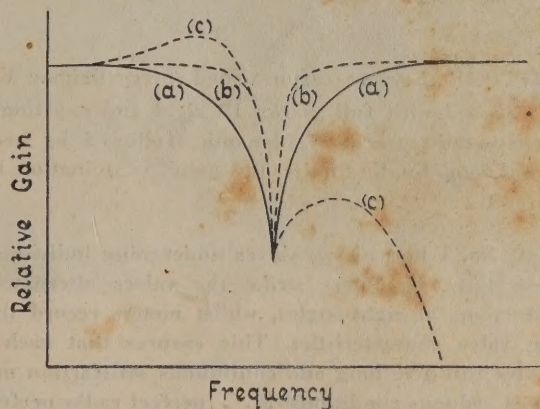

Fig. 2
Fig. 2 shows the response of the network itself at curve (a). One disadvantage of this curve is that after the null, the response rises once more to the same level as below the null, while a second is that the attenuation starts to become effective at frequencies much lower
than the null frequency. However, by combining the parallel-T network with a valve amplifier, both these difficulties can be overcome. First, the network is made to act as a feedback coupling network between the plate and grid of an amplifier valve. The feedback is negative, with the result that the valve adds to the selectivity of the network, and produces a much sharper null, as at (B) in Fig. 2. This overcomes the second difficulty. The first is then partly fixed by connecting a small condenser between grid and earth on the amplifier. This causes a phase shift in the feedback voltage, and gives a slight amount of positive feedback at frequencies below the null point, and extra negative feedback at frequencies above this frequency. As a result, the response curve is no longer symmetrical, but is like curve (C) on Fig. 2.